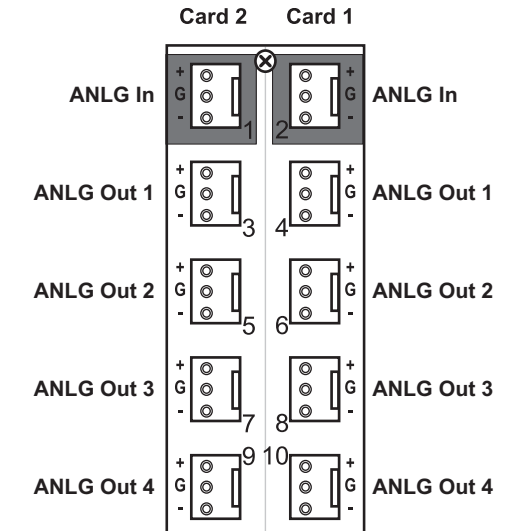

Figure 6 Cable Connections for the 8320AR-043 Split Rear Module
- 8320AR-043 — Each module occupies two slots and accommodates two cards. This rear module provides one analog input and four analog outputs per card. (**Figure 6**)